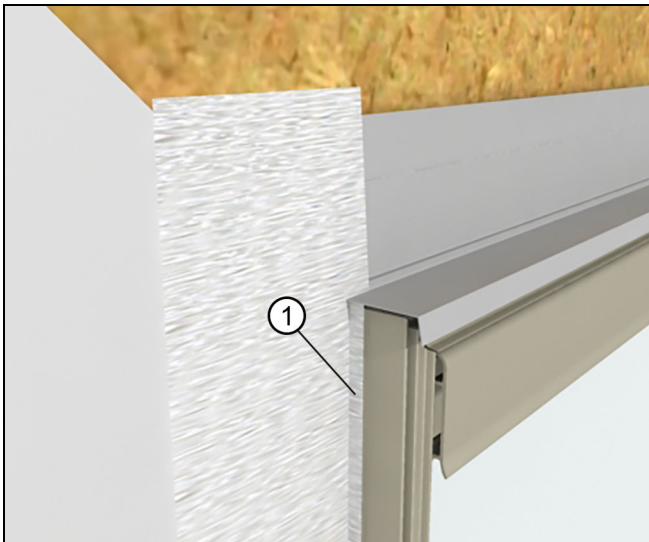

Figure 38
3. Lap vertical strips of flashing onto the unit or casing and out over the weather resistive barrier. Make small cuts at the head jamb to allow the flashing to fold back onto the exterior. See Figure 38.